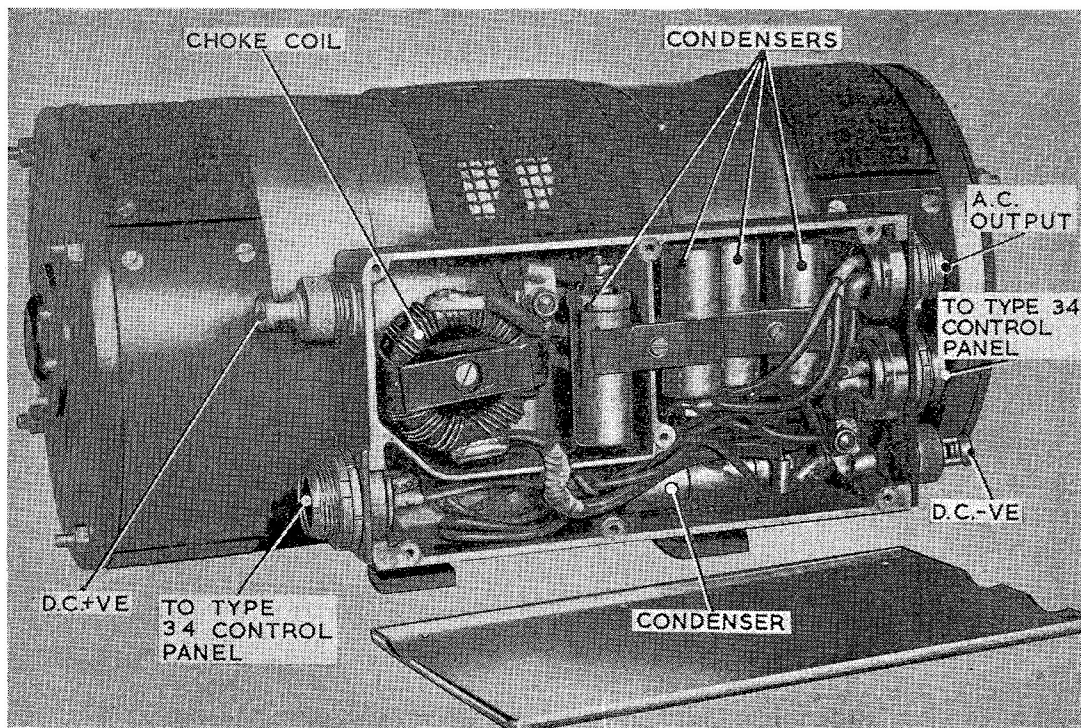

Fig. 1. Rotary inverter, Type 102A, arranged for self cooling
2. The inverter (*fig. 1 and 2*) consists of a 4-pole d.c. motor and a 6-pole, 3-phase, a.c. generator using the same rotor shaft. Interpoles are used in the d.c. motor, and the armature is wound retrogressive wave. The a.c. generator has six poles on the rotor shaft and two slip-rings are used for conveying direct current for the field excitation. The stator has 36 slots (two slots per pole per phase) and is mush wound two coils per slot.